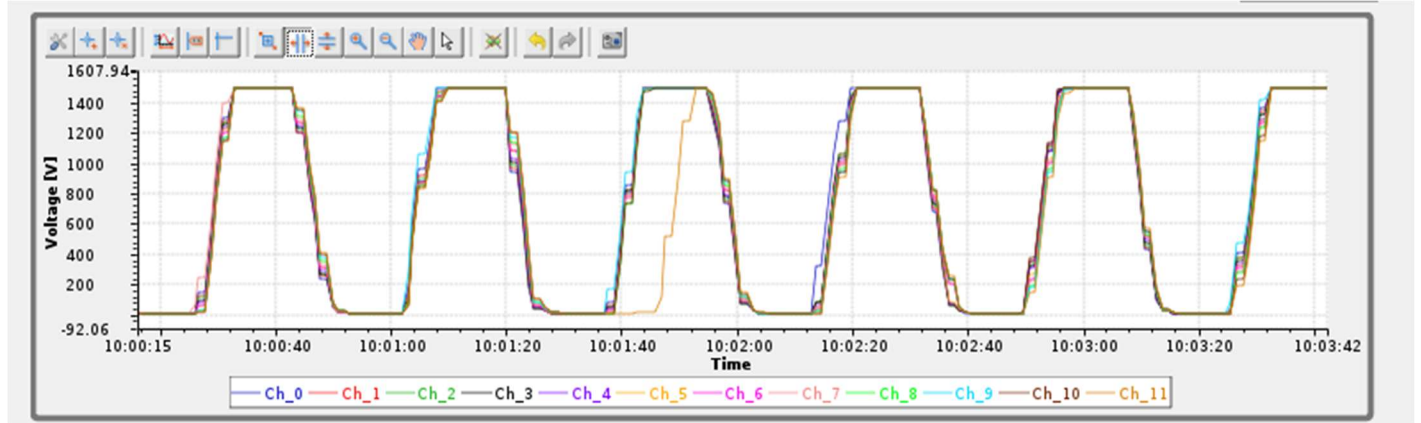

Fig.18 – HV CAEN – Voltage Ramp Test CSS BOY screen shows latency incident for channel 11.
1. Channel 11 had same misbehavior as mentioned in previous test; channel 11 presented one latency incident during this trial. See fig.18.